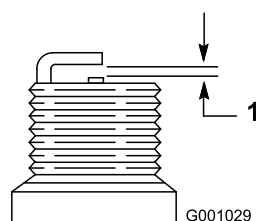

Figure 54
7. Set the gap between the electrodes on a new spark plug at 0.030 inch (0.76 mm) (Figure 54).